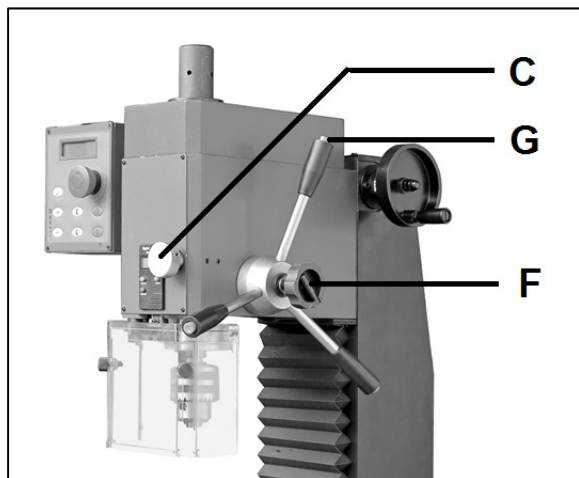

Figure 8-2: Engage fine feed hand wheel
To activate the fine feed hand wheel (C, Figure 8-2) tighten the engagement knob (F).
To reverse spindle directions push the tapping control buttons on the down feed handles (G, Fig 8-2).